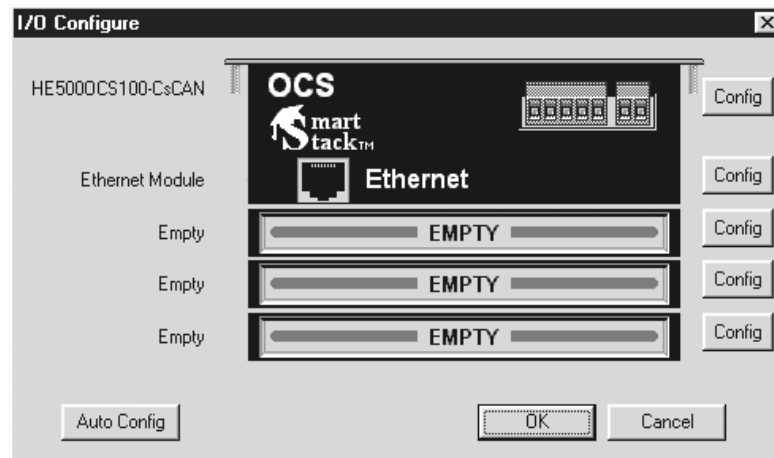

Figure 3.3 – Ethernet Module Selected
5. The ETN100 is now installed as shown in Figure 3.3. Click on the Config button next to the ETN100 (or double click on the slot).